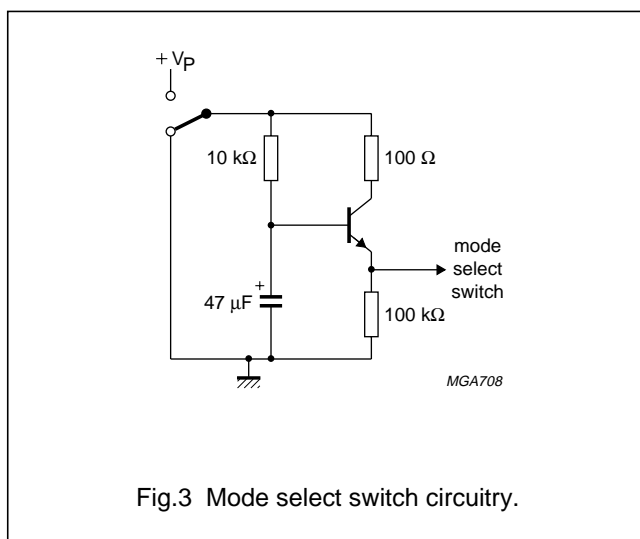

Fig.3 Mode select switch circuitry.
- An external timing circuit (see Fig.3).